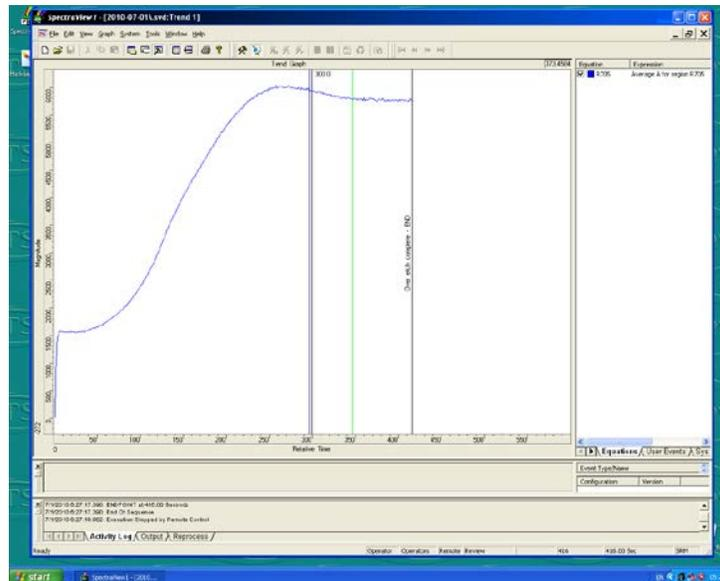

Figure 5: EPD Computer screen.
- Click on Start button (green triangle). The process is terminated by the EPD computer after all the deposited material has been removed. The EPD computer screen will show the trace as in Figure 5.